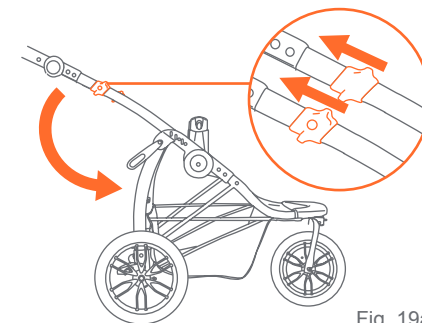
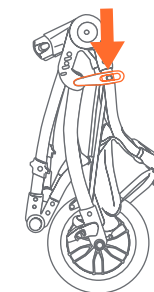

Fig. 19a
Fig. 19b
- Fold the stroller by pulling both release triggers (Fig. 19a) and push handle toward the floor. Make sure the front wheels lie flat, then secure the stroller in the folded position by locking the fold latch, located on the right side of the stroller, over the rivet (Fig. 19b).